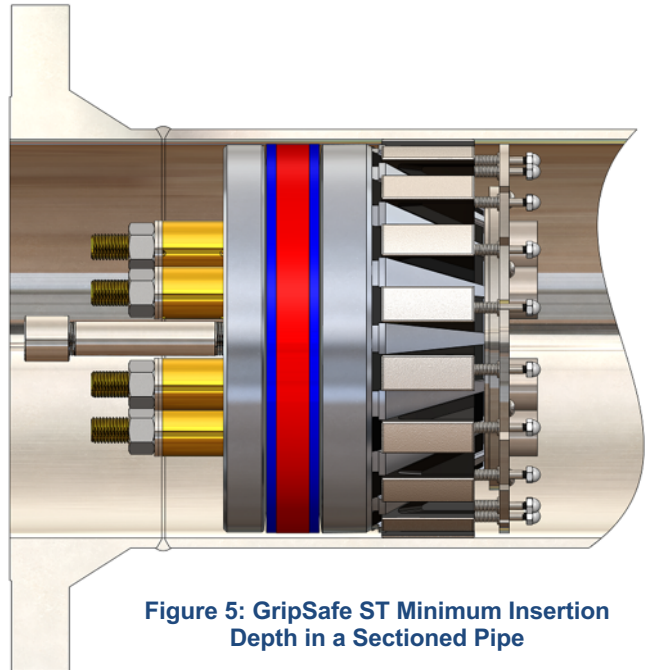

Figure 5: GripSafe ST Minimum Insertion Depth in a Sectioned Pipe
- 6.2. When inserting the GripSafe ST Plug into the pipe, insert **Spring Plate Hub(21)** side first, see *Figure 5*.
- When testing a weld neck flange weld, the **Bottom Compression Plates(12)**, must be inserted past the weld droop and the end of the **Vent Port(10)**, must be at least 1" away from the face of the weld neck flange, see *Figure 5*.